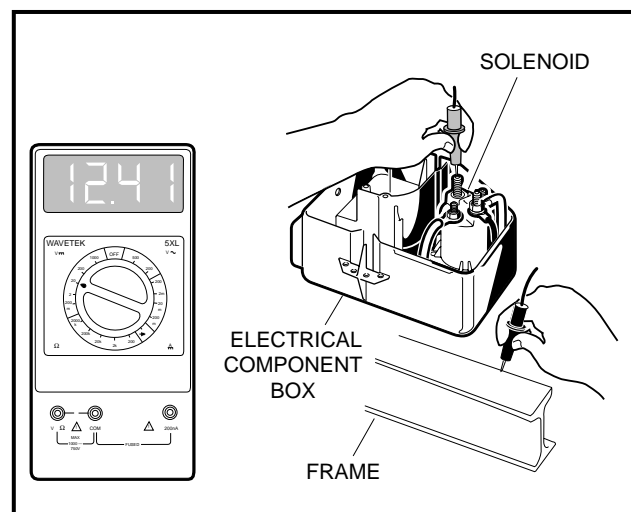

Figure 11-31 Test Solenoid Ground
9. With the Forward/Reverse handle still in NEUTRAL, set the multimeter to 20 volts DC and place the red (+) probe on the large post that does *not* have wires connected to it. Place the black (-) probe on the vehicle frame. Turn key switch to the START position and listen for the solenoid click. While holding the key in the START position, the meter should read full battery voltage. If the reading is incorrect, replace the solenoid (**Figure 11-31, Page 11-27**).